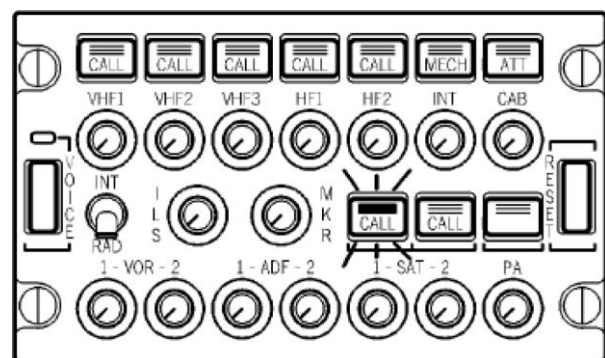

Figure 7-15: ACP - Incoming Call - Flashing amber
- The audio channel (SAT 1/2) call button on the ACP flashes amber (Figure 7-15).